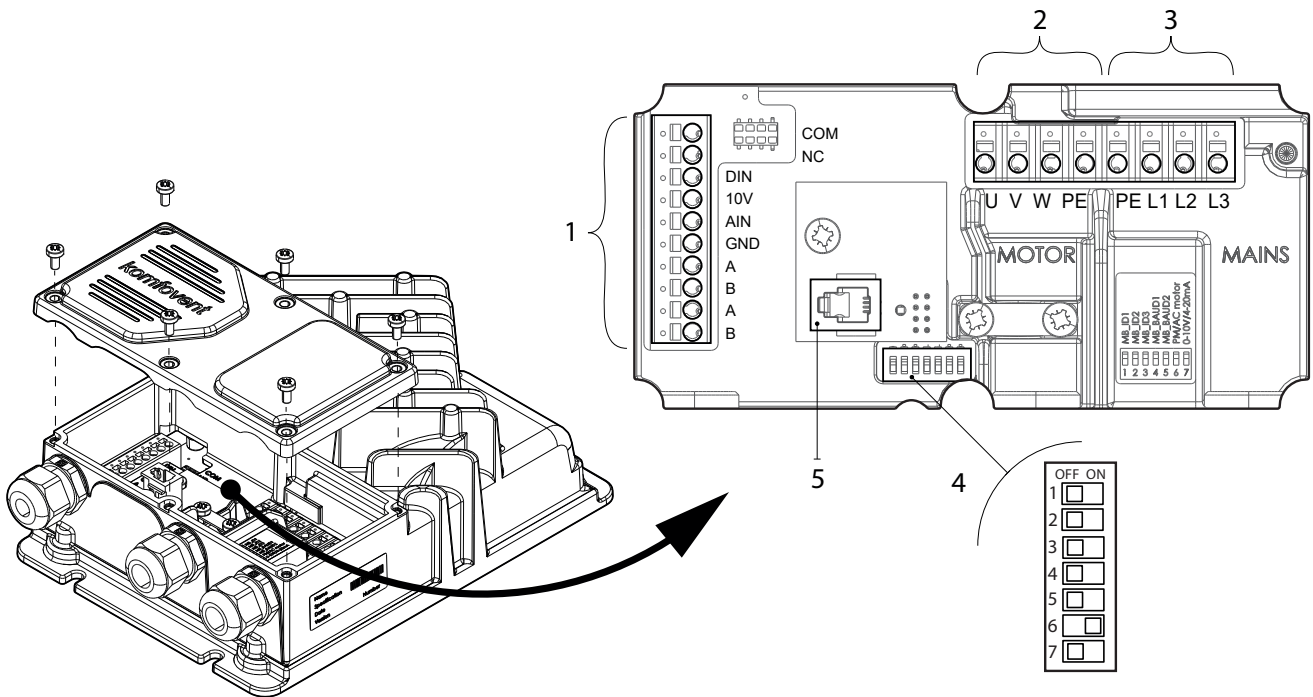

Fig 2. Frequency inverter
Configure micro-switches, connect electrical power and control cables to the frequency inverter (see Fig. 2):
4. Connect control panel of frequency inverter (see Fig. 2).